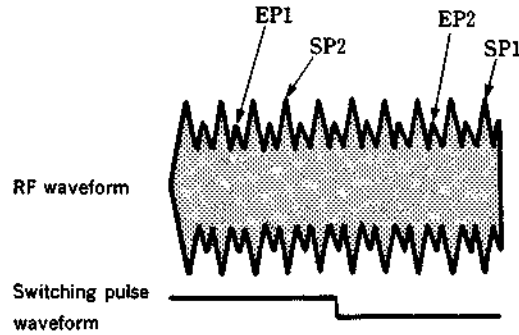
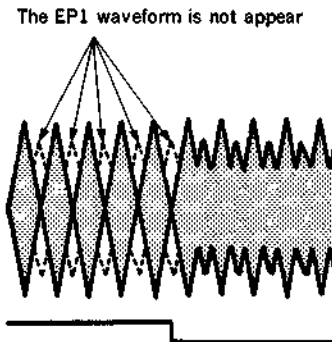
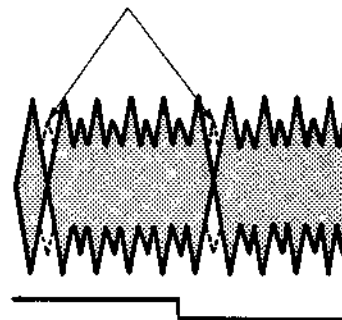

Fig. 1
Fig. 2
Fig. 3
- (2) Insert the alignment tape in the VTR.
- (3) Using the remote controller, enter the SEARCH REV mode (x10 times normal speed), and play back the color bars that were recorded in the SP mode.
- (4) Confirm that an RF waveform appears at SP1, SP2, EP1 and EP2. (Fig. 1) Also, confirm that an RF waveform appears at the entrance side. (Fig. 2) (Fig. 3)